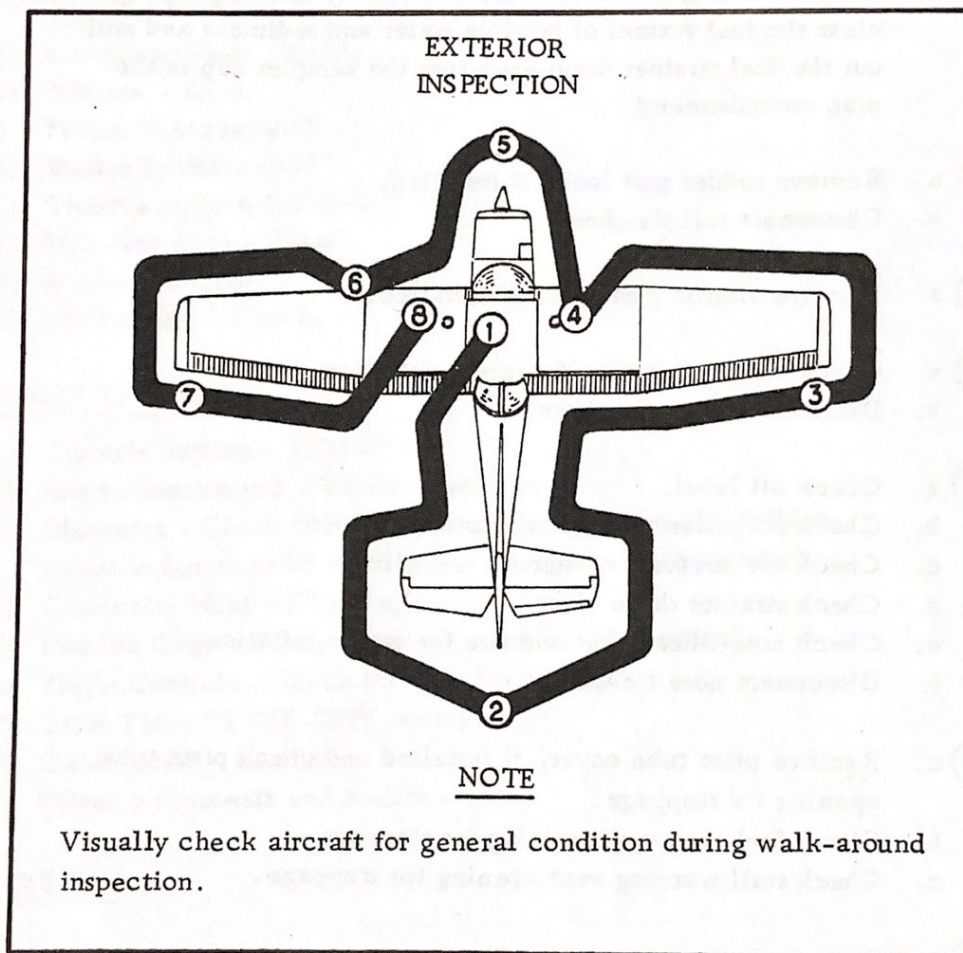

Figure 8
- (1) Make an exterior inspection in accordance with figure 8.